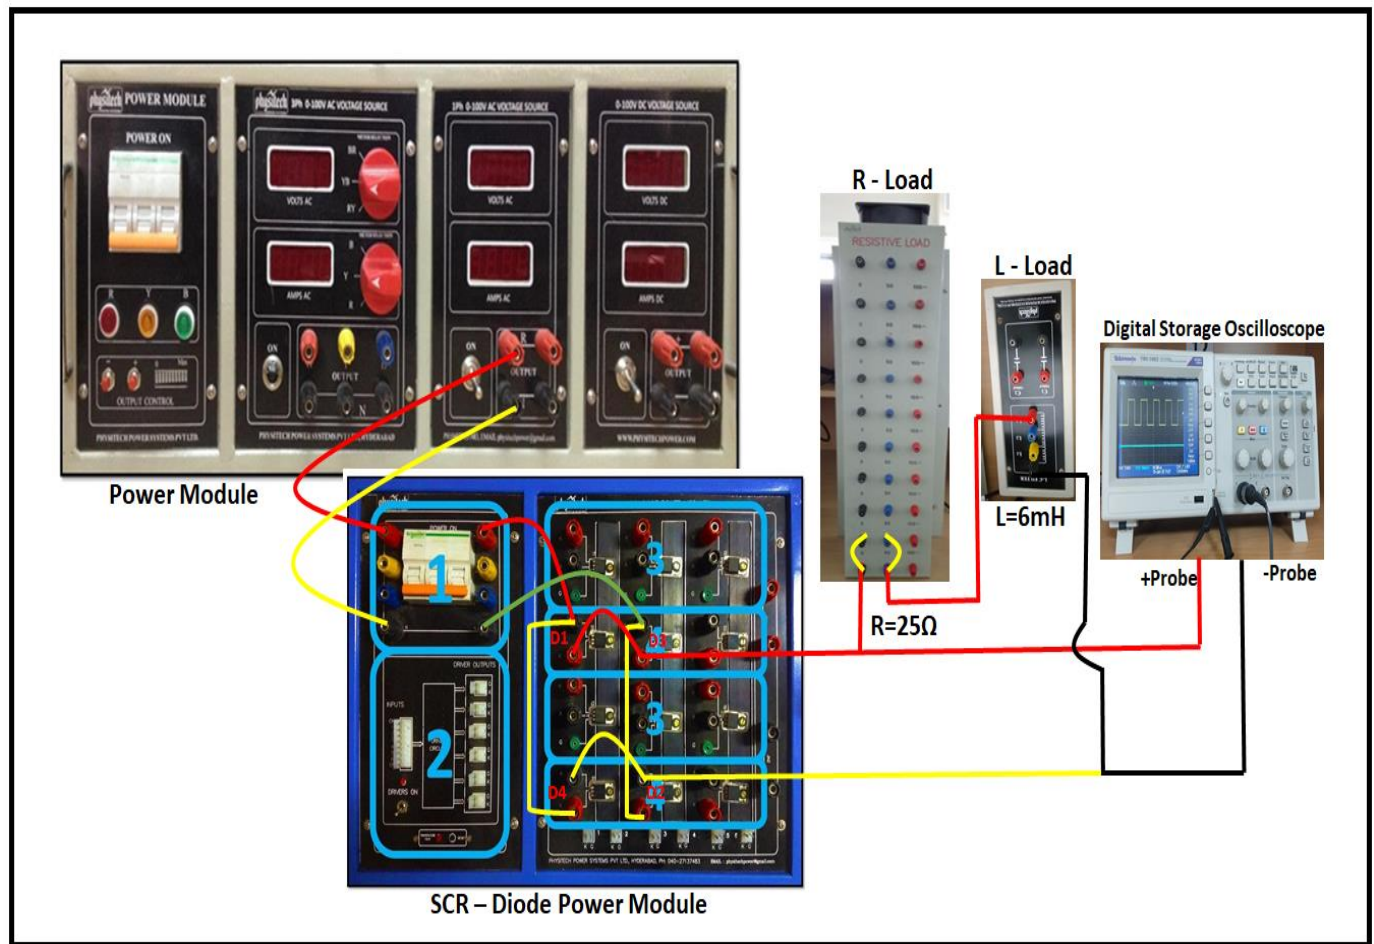

Fig. 5 Hardware implementation of 1-phase diode bridge rectifier with RL Load
1. Connect the circuit as shown in Fig.5 (**R=25ohms, L=6mH**)